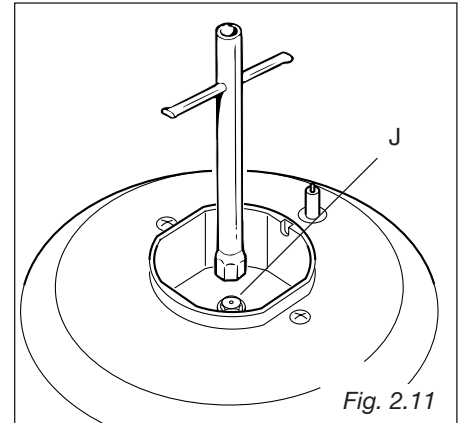

Fig. 2.11
- ✓ Using a wrench substitute the nozzle injectors "J" (figs. 2.11 - 2.12) with those most suitable for the kind of gas for which it is to be used.